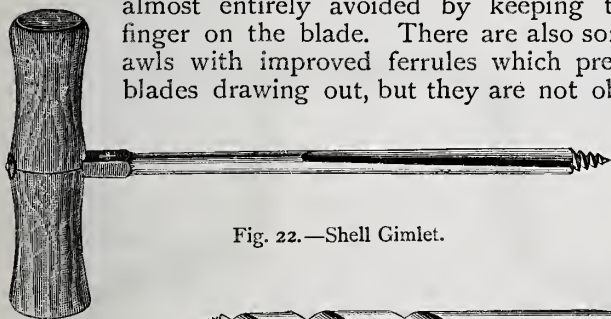

Fig. 22.—Shell Gimlet.
*Gimlets* are well known as convenient boring tools, and it is unnecessary to say anything about them except that there are two principal varieties, known as the shell and the twist gimlets, which are represented by Figs. 22 and 23. Either kind may be used, some preferring one and some the other. They are not required in large sizes.